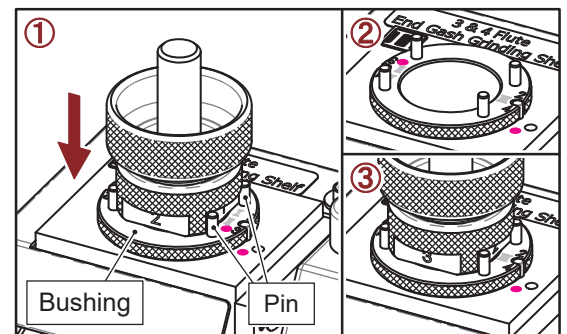

Fig. 15-2
2. 4 Flute End Gash Grinding (II) (Fig. 15-2)
① Insert the chuck set into the bushing on the Shelf (II), align Slot No.1 to the two pins where marked as No.(1·3), push the chuck set gently until the grinding noise stops. Turn the chuck set to grind the Slot No.3 in the same way, then take the chuck set out.
② Turn the bushing to No.(2·4), align No.(2·4) to the pin on the shelf, then insert it to the end.
③ Insert the chuck set into the bushing, align Slot No.2 to the two pins where marked as No.(2·4), push the chuck set gently until the grinding noise stops. Turn the chuck set to grind the Slot No.4 in the same way.